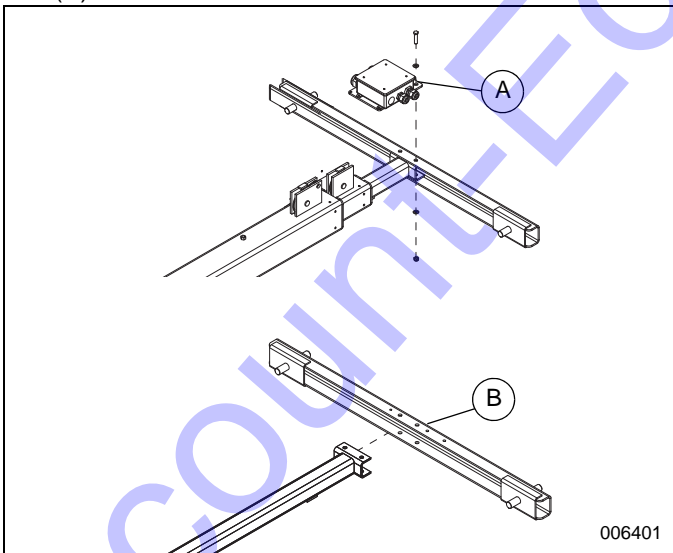

Figure 5. Junction Box and Crossbar Removal
5. See **Figure 5**. Remove junction box (A) and crossbar (B) from mast.